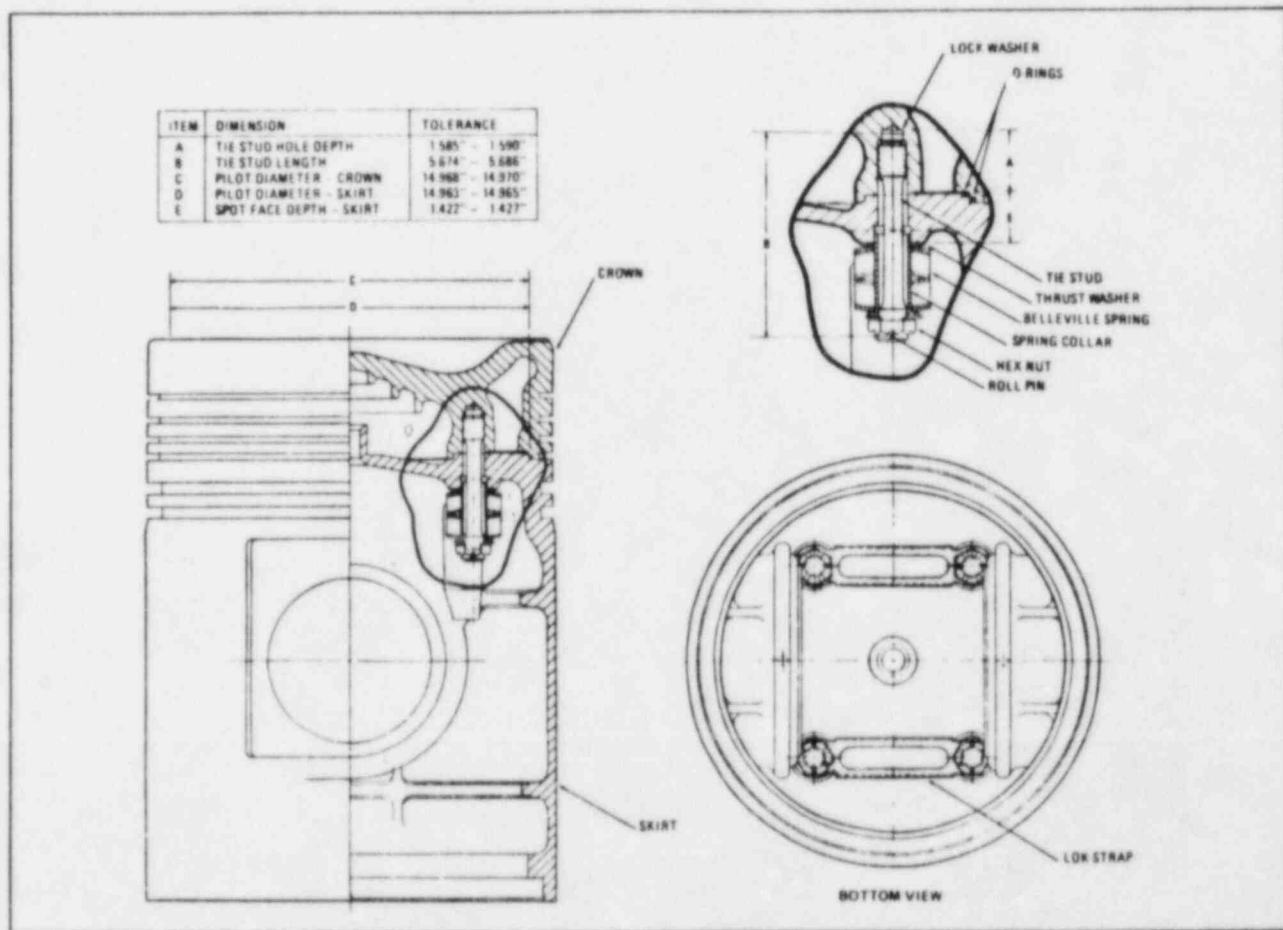

Figure 6-C-7. Piston Assembly
(1) Measure depth of crown stud holes. Measure from raised inner ring towards the center of the crown, not from the 0.007" deep relieved area. Must be within tolerances (A, Fig. 6-C-7).
(2) Install a heavy spring lock washer in each of the four tie stud holes. Use Enterprise Part No. GA-002-091 washer (0.388" I.D., 0.691" O.D., 0.115" thick). Do not substitute.
(3) Measure length of tie stud from lock washer end to centerline of roll pin hole (B, Fig. 6-C-7). Acceptable tie studs must be within tolerances.
(4) Lubricate threads of tie studs (end opposite roll pin hole) with a 50-50 mixture of graphite and engine oil, and thread studs into holes in crown. Torque to 250 ft-lb.
(5) Take a micrometer measurement of crown and skirt pilots (C, D, Fig. 6-C-7). Must be within tolerances to ensure ease of assembly without damage to O-rings.
(6) Measure skirt spot face depth (E, Fig. 6-C-7). Should be within stated tolerances.
(7) Install O-rings on skirt. Do not twist rings during installation. Use no adhesive, grease or solvent on rings. Mineral oil may be used to ease entry of O-rings into crown.
(8) Assemble crown to skirt. Observe that there is a dowel pin in the crown which must enter the dowel hole in the skirt. Check O-rings for proper positioning.
(9) Clean each Belleville spring and the spring collars by dipping them in solvent then thoroughly drying. Dip all springs and collars into a 50-50 mixture of graphite and engine oil, making sure washer faces are completely wetted.
(10) Install thrust washer on each tie stud, then install exactly 13 Belleville springs on each stud, concave side towards skirt. Install 13 more Belleville springs on studs, concave side towards crown.